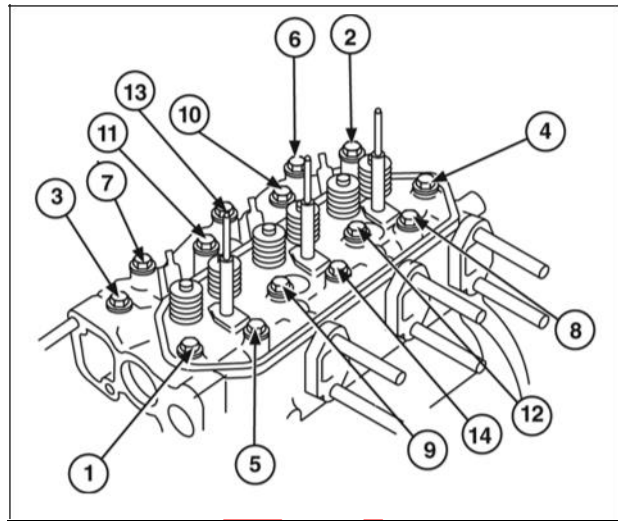

Figure 8
1. Loosen cylinder head bolts in the order shown (Figure 8).